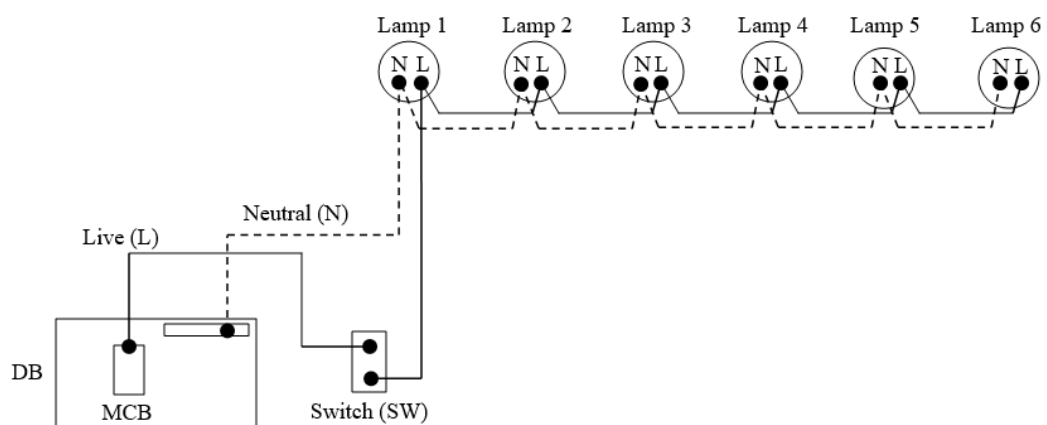

Figure A1(a) / Rajah A1(a)
- CLO2 (a) A miniature circuit breaker (MCB) is connected to each unit (nos) of 100W fluorescent tube lamp as shown in Figure A1(a). If 230V is supplied to a distribution board (DB), estimate the appropriate rate of MCB for the lighting circuit.
*Pemutus litar kenit (MCB) disambungkan kepada setiap unit (nos) 100W lampu tiub kalimantang seperti ditunjukkan dalam Rajah A1(a). Jika 230V dibekalkan ke papan agihan (DB), anggarkan kadar MCB yang sesuai untuk litar pencahayaan tersebut.*